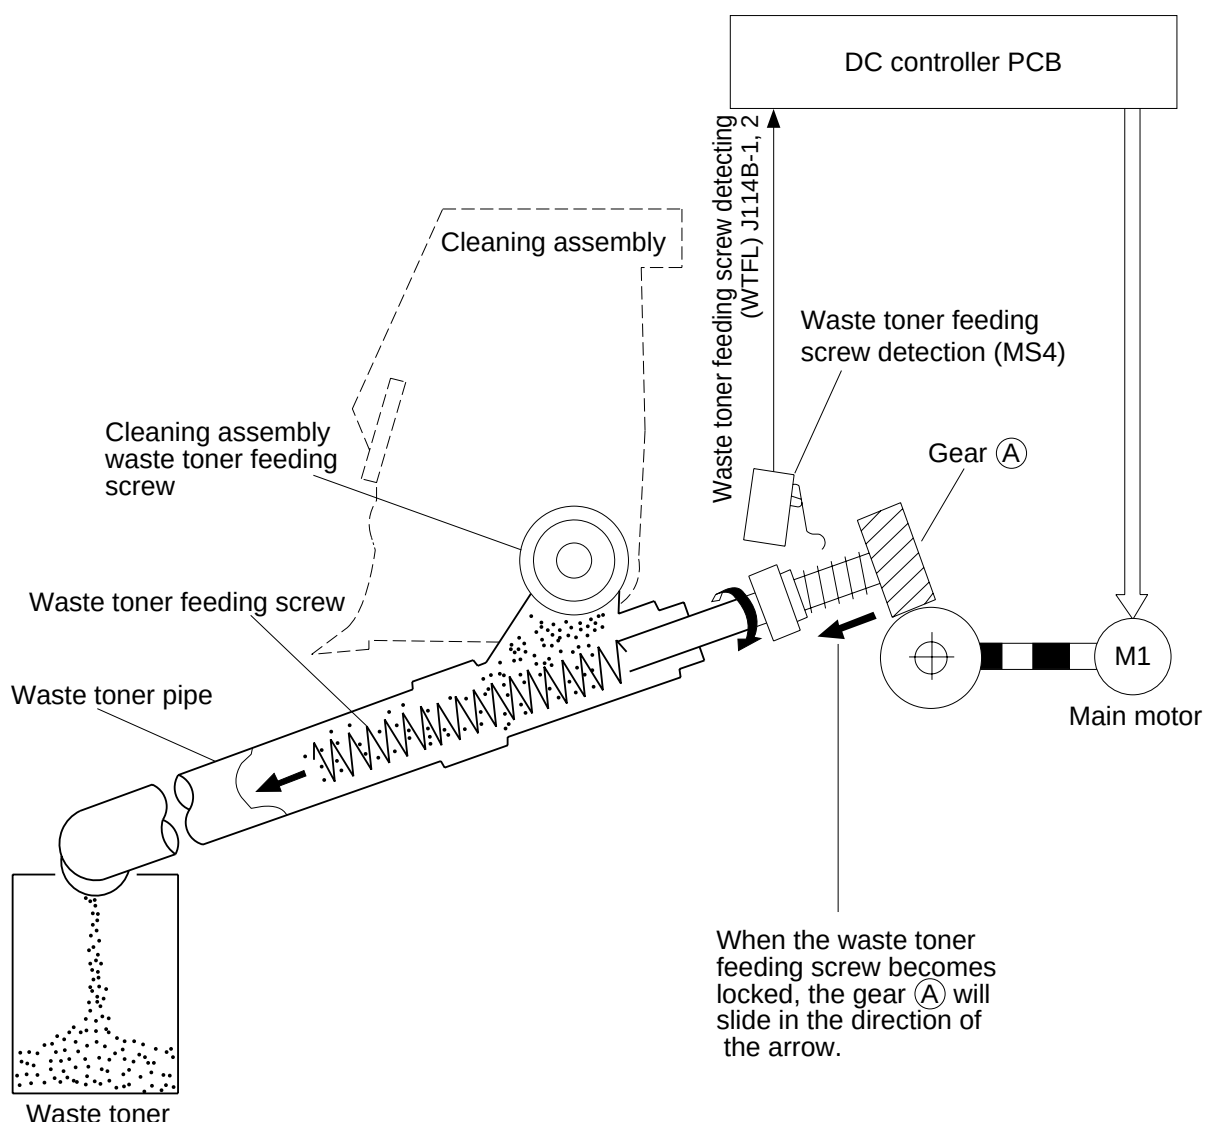

Figure 4-210 (rear view)
The gear ① (Figure 4-210) used to drive the waste toner feeding screw becomes subject to force in the axial direction, and slides along the shaft.